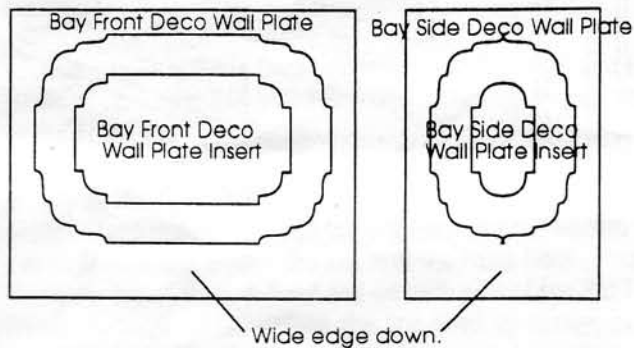

Figure 27
6. Install Front and Right Side Deco Plates and Inserts. See Figure 27 and front label picture.